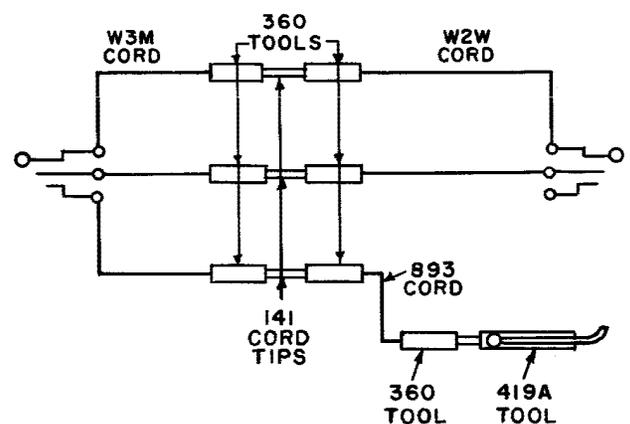

Fig. 1 - Test Cord Assembly
2.14 Test cord assembly shown in Fig. 1, consisting of a W3M cord, 6 feet long, equipped with a 310 plug and three 360 tools (3W4A cord); a W2W cord, 6 feet long, equipped with a 310 plug and two 360 tools (2W17A cord); an 893 cord, 6 feet long, with 360 tools at each end (1W13B cord); a 419A tool and three 141 cord tips (for use when connecting test set to line finder commutator and test jack when test jack is not located on line finder).
14c	If test jack is not located on line finder, insert plug of 6-foot W3M cord, Fig. 1, into LF jack.